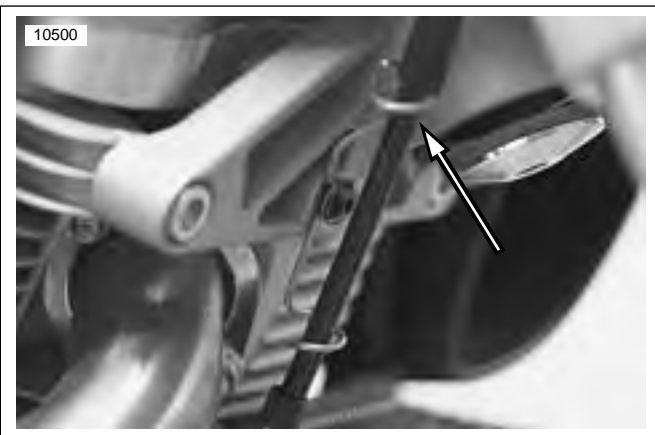

Figure 2-88. Clutch Cable Wire Form
2. See Figure 2-88. Remove clutch cable wire form.
10. Tighten front isolator bolt (6) to 49-51 ft-lbs (66-69 Nm).
11. See Figure 2-88. Install clutch cable wire form. Tighten fastener to 84-92 **in-lbs** (9.5-10.4 Nm).